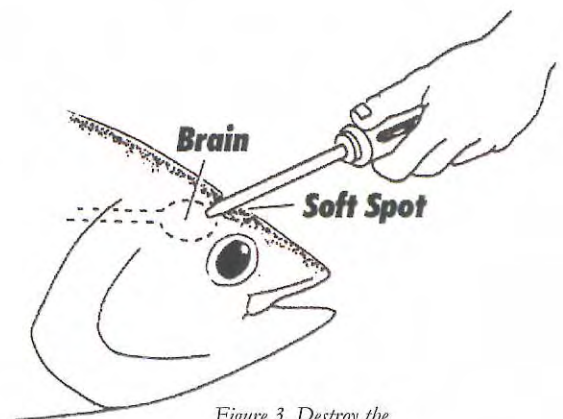

Figure 3. Destroy the brain on either side of the soft spot using an ice pick or screwdriver.
- Step 4** Move the probe back and forth to destroy the brain (Figure 3.)